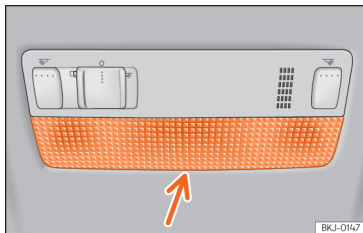

Fig. 112 Front reading light.
- Insert a fine screwdriver between the casing and the glass >>> **Fig. 112**.